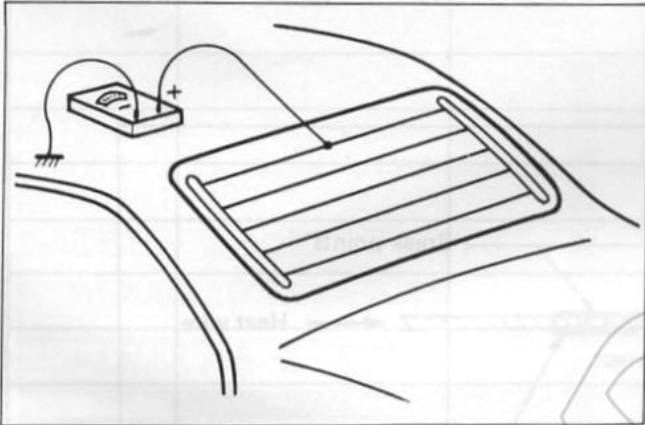

Fig. BE-45 Checking for broken heat wire with d-c voltmeter
(2) Method 2 — Start the engine and turn on the window defroster system. With a d-c voltmeter setup shown in Figure BE-45, check each heat wire for discontinuity. If the meter indicates 12 volts or 0 on a specific wire, that line is broken. (Normal indication: 6 volts)